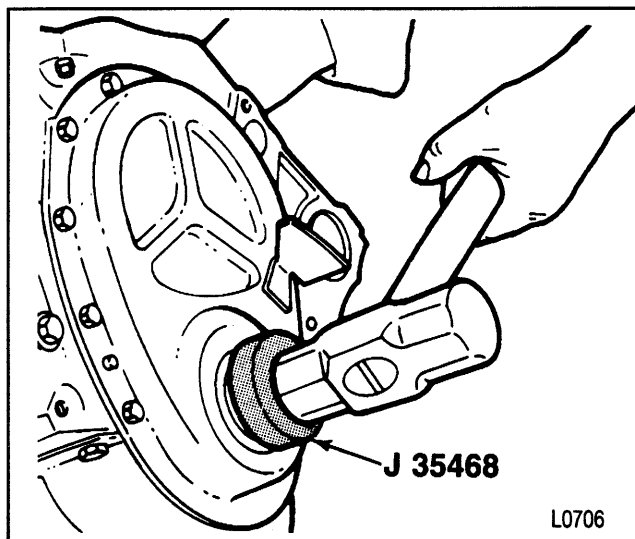

Figure 21—Installing the Crankshaft Front Seal
Install or Connect (Figures 21 and 22)
2. Crankshaft front seal. Use J 35468 (figure 21). The open end of the seal faces inside the engine. Coat the seal lips with engine oil.